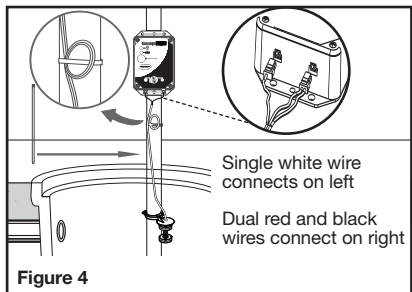

Figure 4
- b. Connect the dual float sensor to the jacks located on the bottom of the device. Secure the dual float sensor on the discharge pipe at the height you want the alarm to activate using the hose clamp provided. Loop the wire around the zip tie to prevent the sensor from slipping down the pipe. Do not mount the dual float sensor near an inflow pipe where water could splash and give a false alarm. (Figure 4)